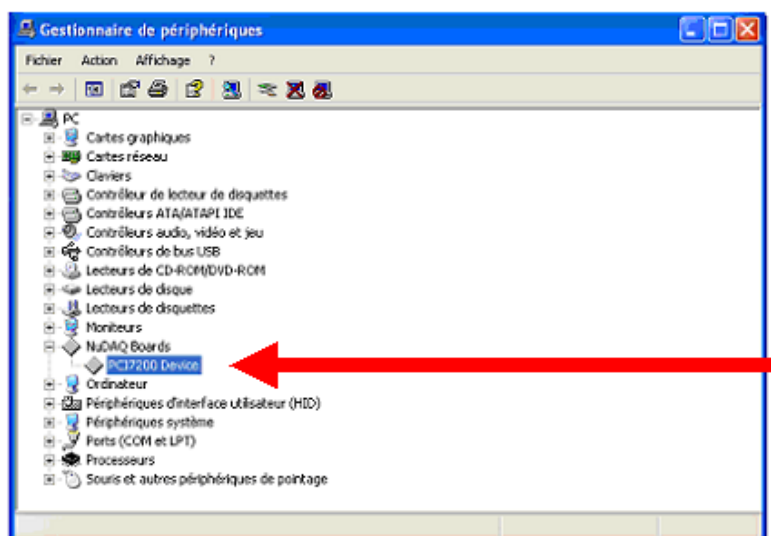

Figure 10 – The ADLINK driver as seen in the MS-Windows Device Manager.
5. Open the MS-Windows Device Manager program and check if your ADLINK PCI-7200 driver is correctly installed (see Figure 10 below). If not, please reinstall your driver as instructed in section 5 INSTALLATION.